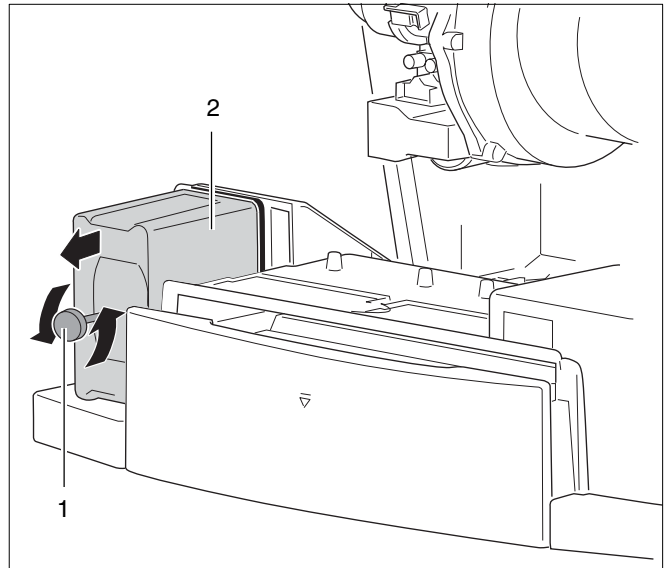

Fig. 65 Dismantling the UBA3
- Loosen the fastening screw of the UBA3 (see fig. 65, pos. 1).
- Remove the UBA3 by pulling it forward as indicated by the arrow (see fig. 65, pos. 2).